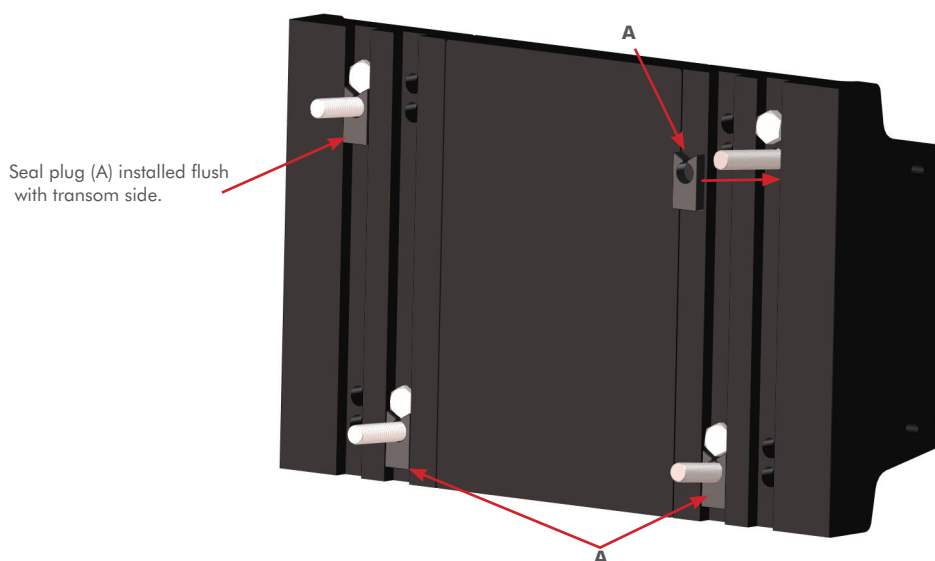

Figure 4
STEP 4: Install the four **Seal Plugs (A)** onto each **transom bolt** being used with the **M to S Adapter Plate (B)**. **FIG 4**